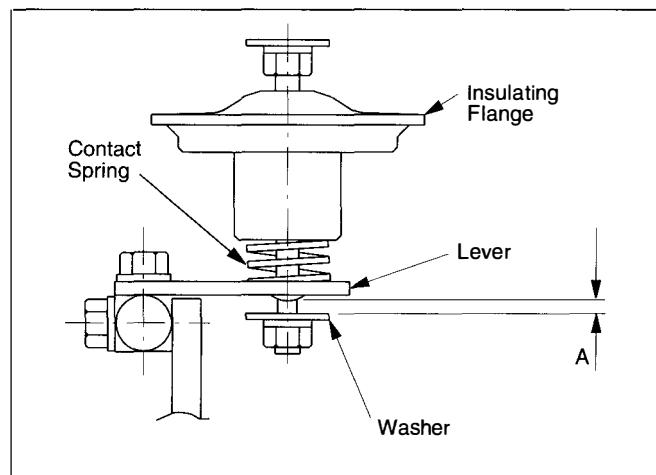

Figure 15. Measurement of Contact Wear
2. With the vacuum interrupter closed, check the amount of main contact wear in the vacuum interrupter. Measure the gap between the lever and the washer (dimension A) with the contactor closed, as shown in **Figure 15**. With the vacuum interrupter closed, it should be possible to insert a 1mm thick shim in the gap between the washer and the protrusions on the bottom of the lever. When this shim can no longer be inserted in the gap, the allowable contact wear has been exceeded, and the interrupter must be replaced.